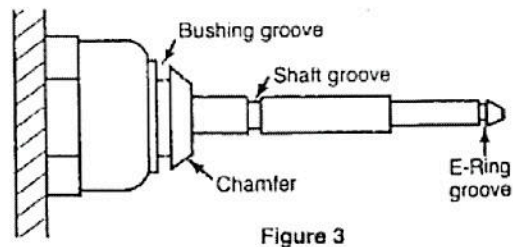

Figure 3
5. Clean debris from boot area, Figure 3. For ease of installation place a small amount of lubricant around the chamfered edge of bushing.
6. Install new boot over shaft and seat into grooves of shaft and bushing. Figure 3. Rotate boot to verify uniform engagement.